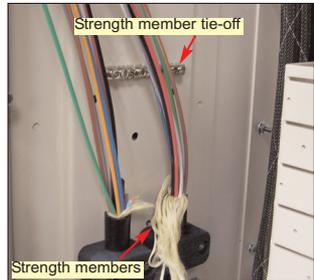

Fig. 26
- Use the included mounting screws to fasten the clamp shells and cable to the appropriate cable bracket. The cable should be mounted so that the breakout is slightly above the top of the clamp (Fig. 26).